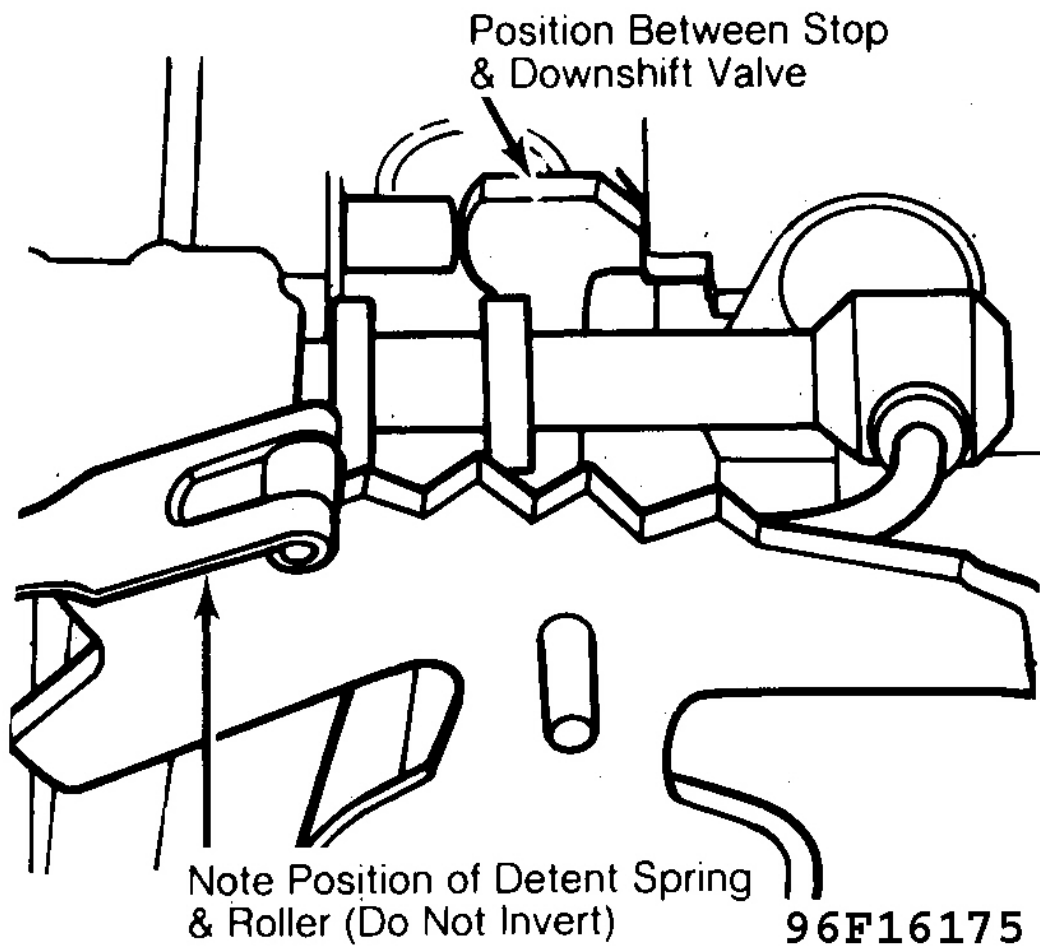

Fig. 44: Bottom of Transmission Case
19. Install and tighten all remaining bolts except filter screen bolts. Remove bolt "A" and attach detent spring to bolt. Reinstall bolt "A" and tighten bolts "A" and "B" completely. Ensure inner downshift lever is seated between stop and downshift valve. See **Fig. 44** .